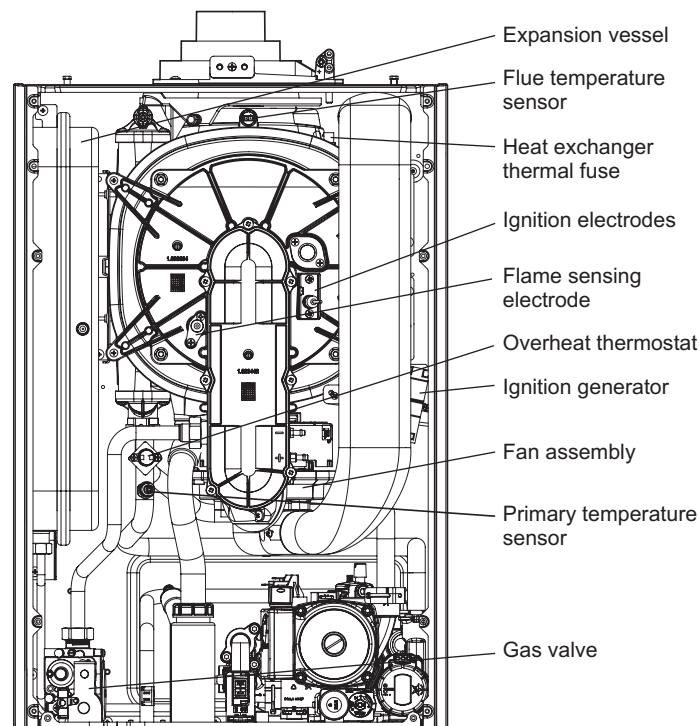

Fig. 30
### 7.3 ELECTRODES - Fig. 30
## 7.7 IGNITION GENERATOR - Fig. 30
## 7.8 OVERHEAT THERMOSTAT - Fig. 30
## 7.9 FLUE TEMPERATURE SENSOR - Fig. 30
### 7.10 GAS VALVE - Fig. 30
### 7.19 PRIMARY HEAT EXCHANGER - Figs. 30, 33
3. Unplug the connections from the flue temperature sensor and thermal fuse, see Fig. 30.